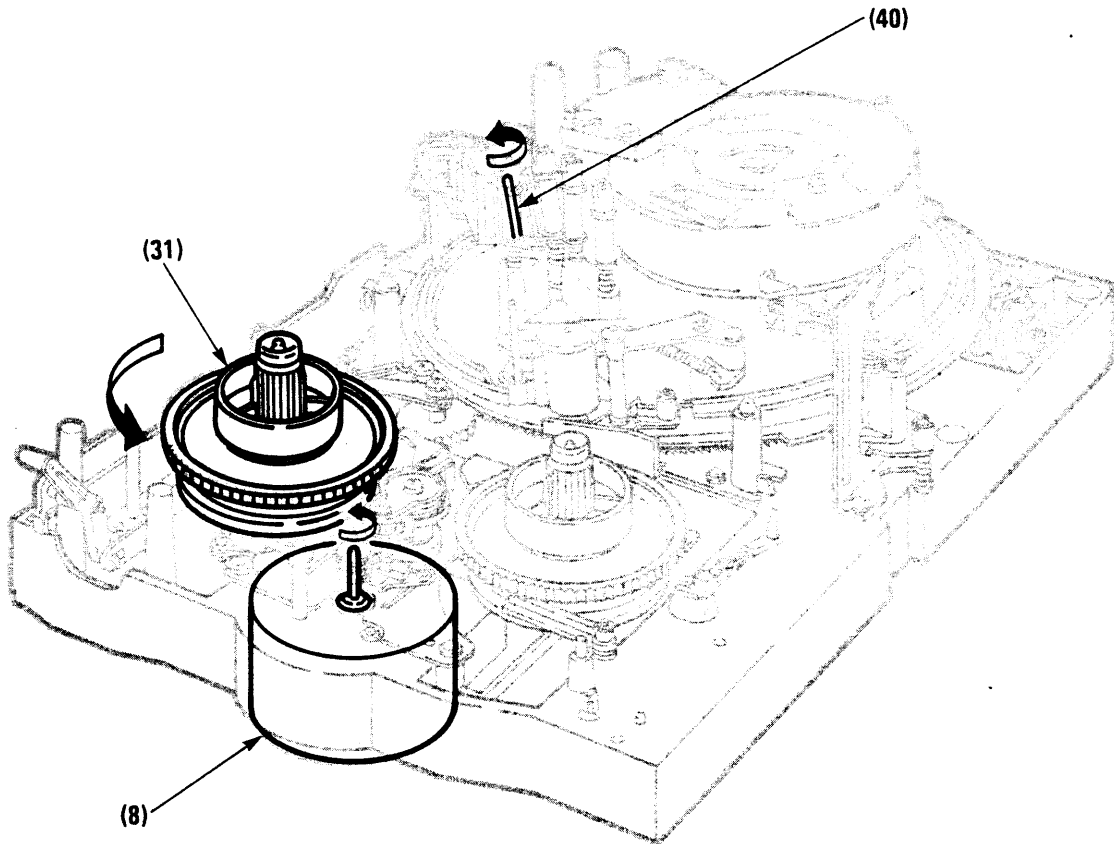

Fig. 3-3-18 R-SEARCH mode
5. R-SEARCH MODE (See Fig. 3-3-18.)